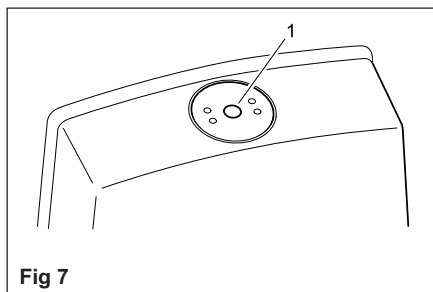

Fig 7
1. Run some water into the bowl by pressing the flush button (Fig 7, 1).